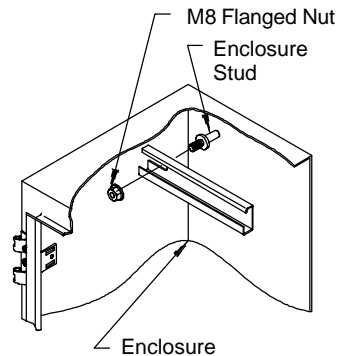

Figure 1
2. If mounting to enclosure studs, line up slots in DIN rails with studs. Attach M8 flanged nut to each stud and torque to 99 in-lbs (11 Nm). See figure 1.